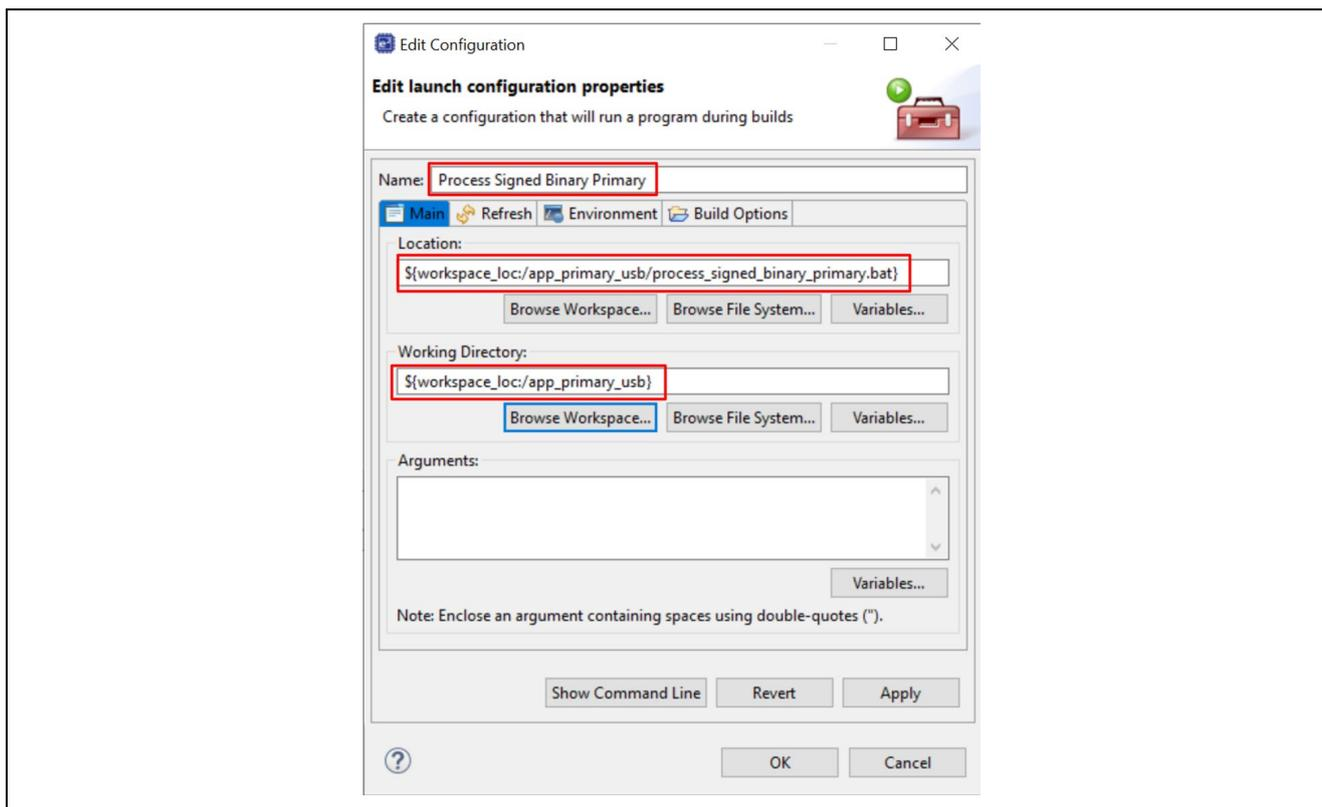

Figure 51. Configure the Custom Builder for the Primary Application
2. Follow section 4.7 to create the new **Builder**. The finished configuration should look like Figure 51.